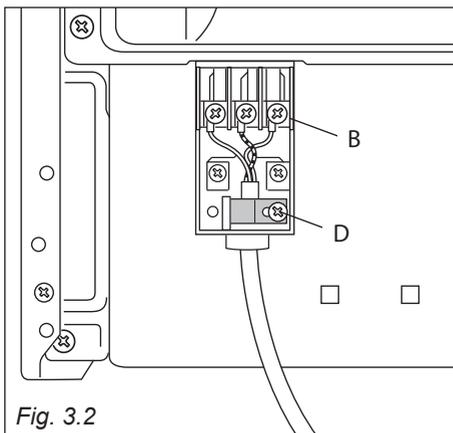

Fig. 3.2
- Unscrew cable clamp “D” (fig. 3.2).